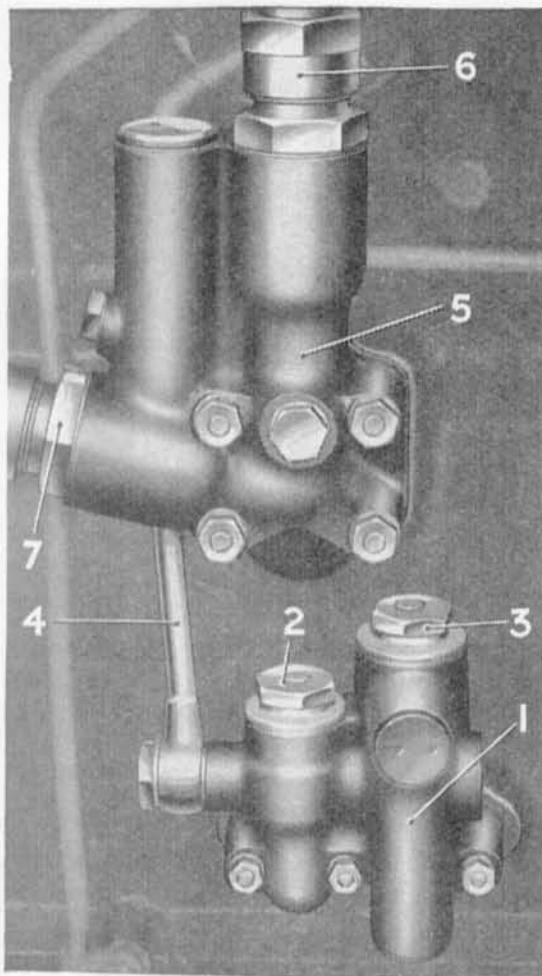

Fig. 9.—RELIEF VALVES.
The double relief valve unit is mounted on the right-hand side of the crankcase. (See Fig. 9.)
Oil passing the high-pressure valve (2, Fig. 9) enters the low-pressure chamber and from there via a pipe (4) to the inlet rocker shaft.